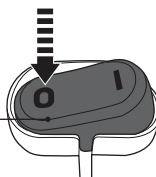

Fig. 21
- > Press the on / off switch (16) to position O to switch the product off (Fig. 21).